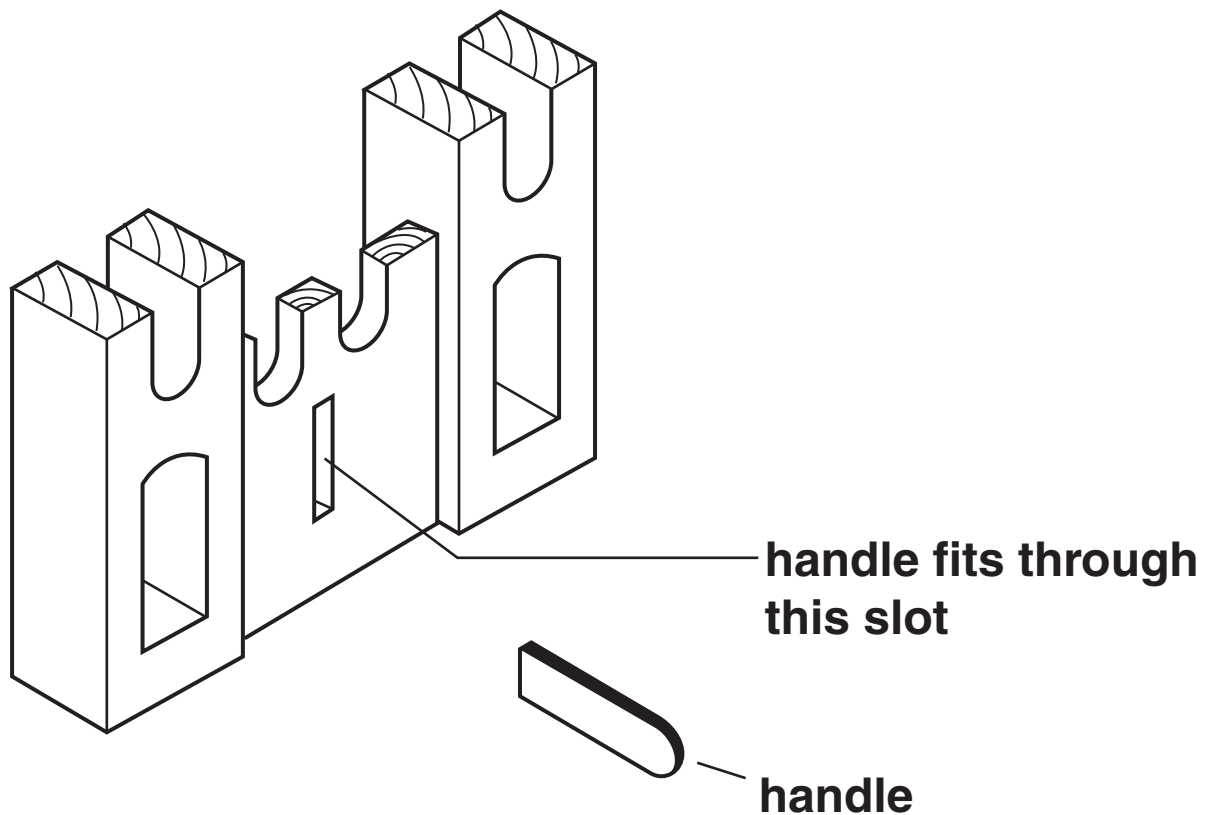

Fig. 4
- 4 Fig. 4 shows a view of an incomplete child's toy. It is made mainly of beech. The handle is to be inserted into the slot and is a loose fit.